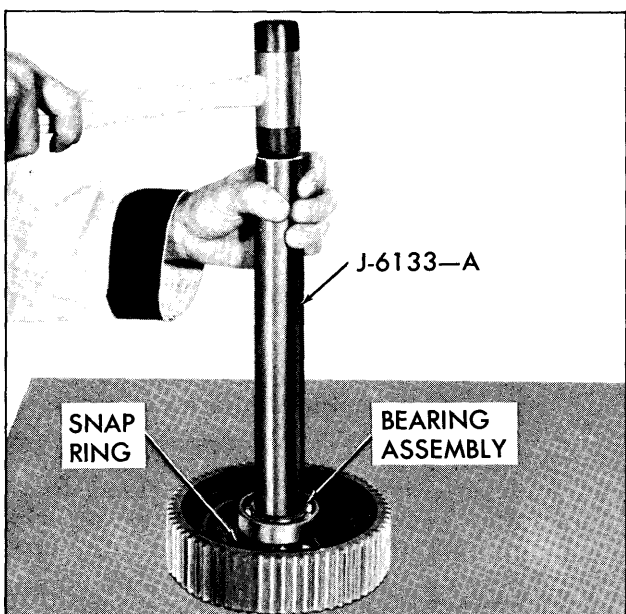

Fig. 7E-61 Installing Bearing
- c. With a hammer and brass rod, drive the inner race, alternately through each of the access openings, until the bearing assembly is removed from the sprocket hub. (Fig. 7E-60)